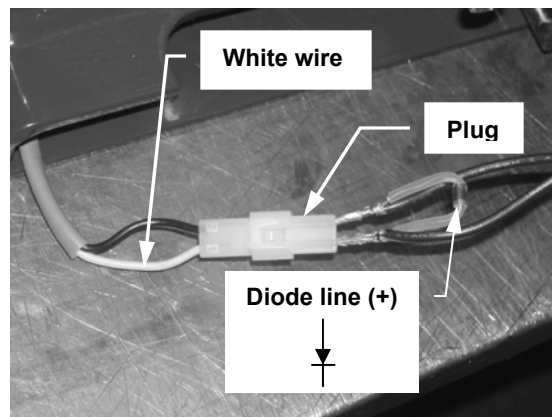

FIGURE 5
4. Insert solenoid pins into supplied plug. Make sure the positive pin (adjacent to diode line) connects with the white wire pin. Refer to Figure 5.